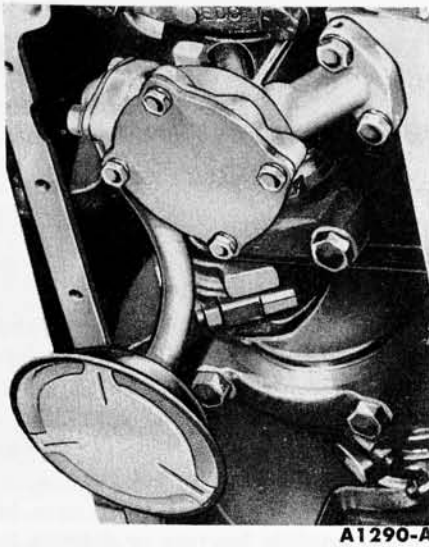

FIG. 71—Oil Pump and Inlet Tube Installed
3. Raise the engine high enough to allow installation of the oil pump and the oil pan. Place the oil pump in the oil pan and position the oil pan on the underbody cross member. Insert the oil pump drive shaft into the oil pump housing and install the oil pump and shaft as an assembly (Fig. 71). **Do not attempt to force the pump into position if it will not seat readily. The drive shaft hex may be misaligned with the distributor shaft. To align, rotate the intermediate shaft into a new position.** Torque the oil pump retaining screws to specifications.